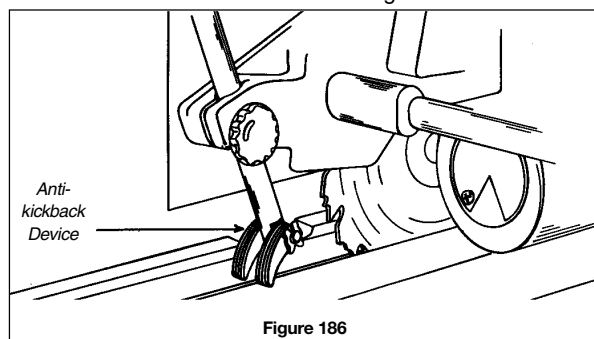

Figure 186
- Adjust anti-kickback device (Figure 186) to 1/8 inch below the surface of stock being fed.